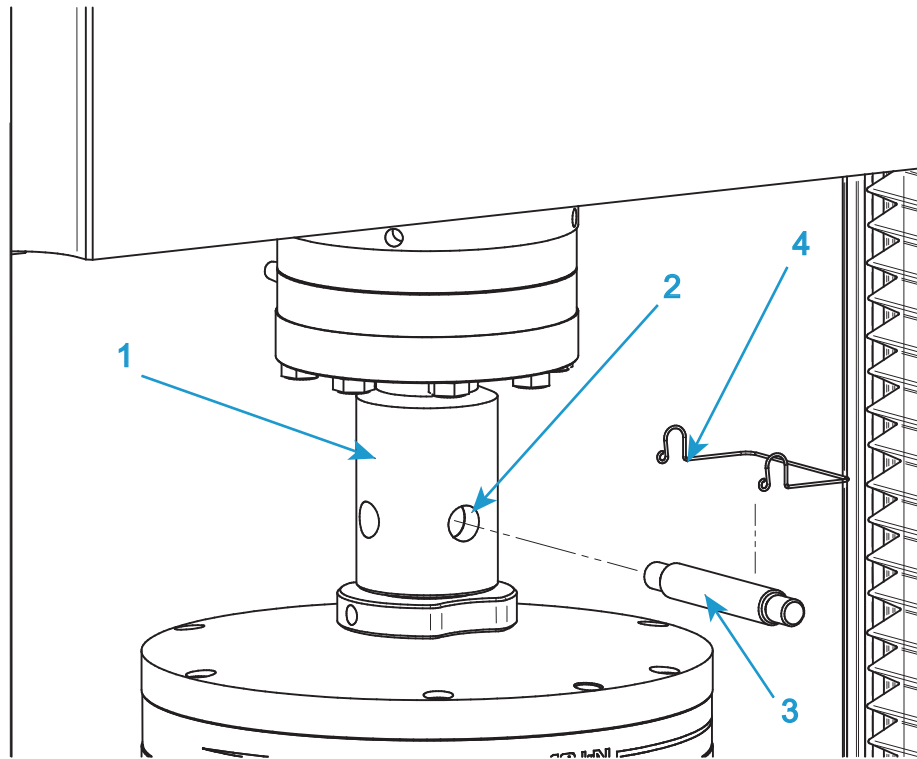

Figure 17. Typical grip installation
Refer to Figure 17 on page 85 when following this procedure.
1. For the upper grip, insert the adapter on the grip into the female clevis socket (1 in Figure 17) on the load cell adapter.
2. Align the clevis holes (2 in Figure 17) and insert the clevis pin (3 in Figure 17) through the holes.
3. Secure the clevis pin in position with the clevis pin clip (4 in Figure 17).